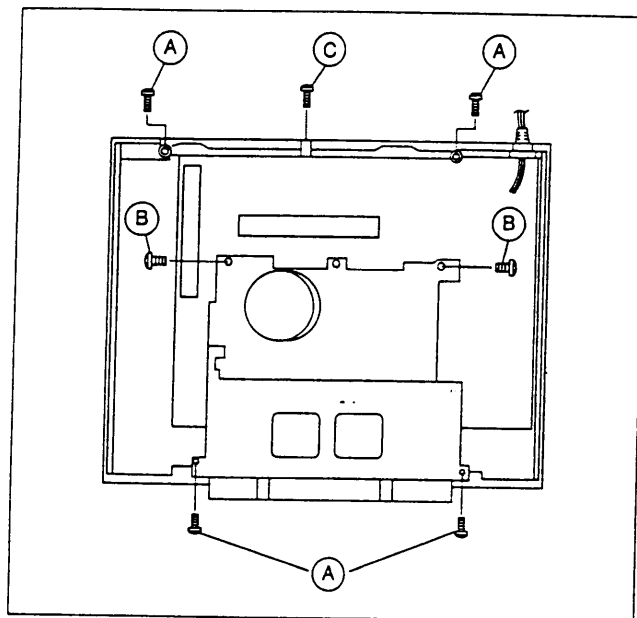

Fig. 1-5-1
- (1) Remove the Top cover, Front panel assy and CN1 of the DISPLAY board assy.
- (2) Take out 4 screws (A), 2 screws (B) and 1 screw (C) as shown in Fig.1-5-1.